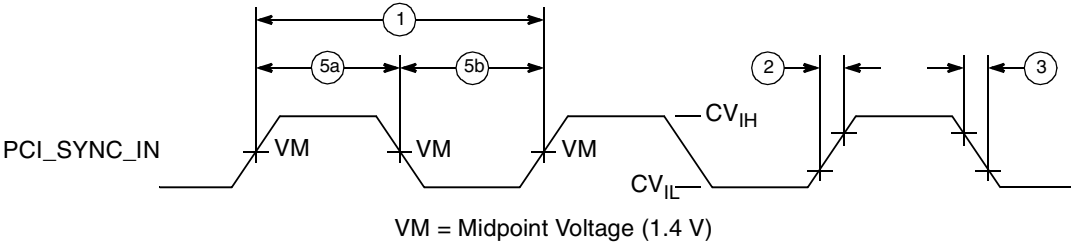
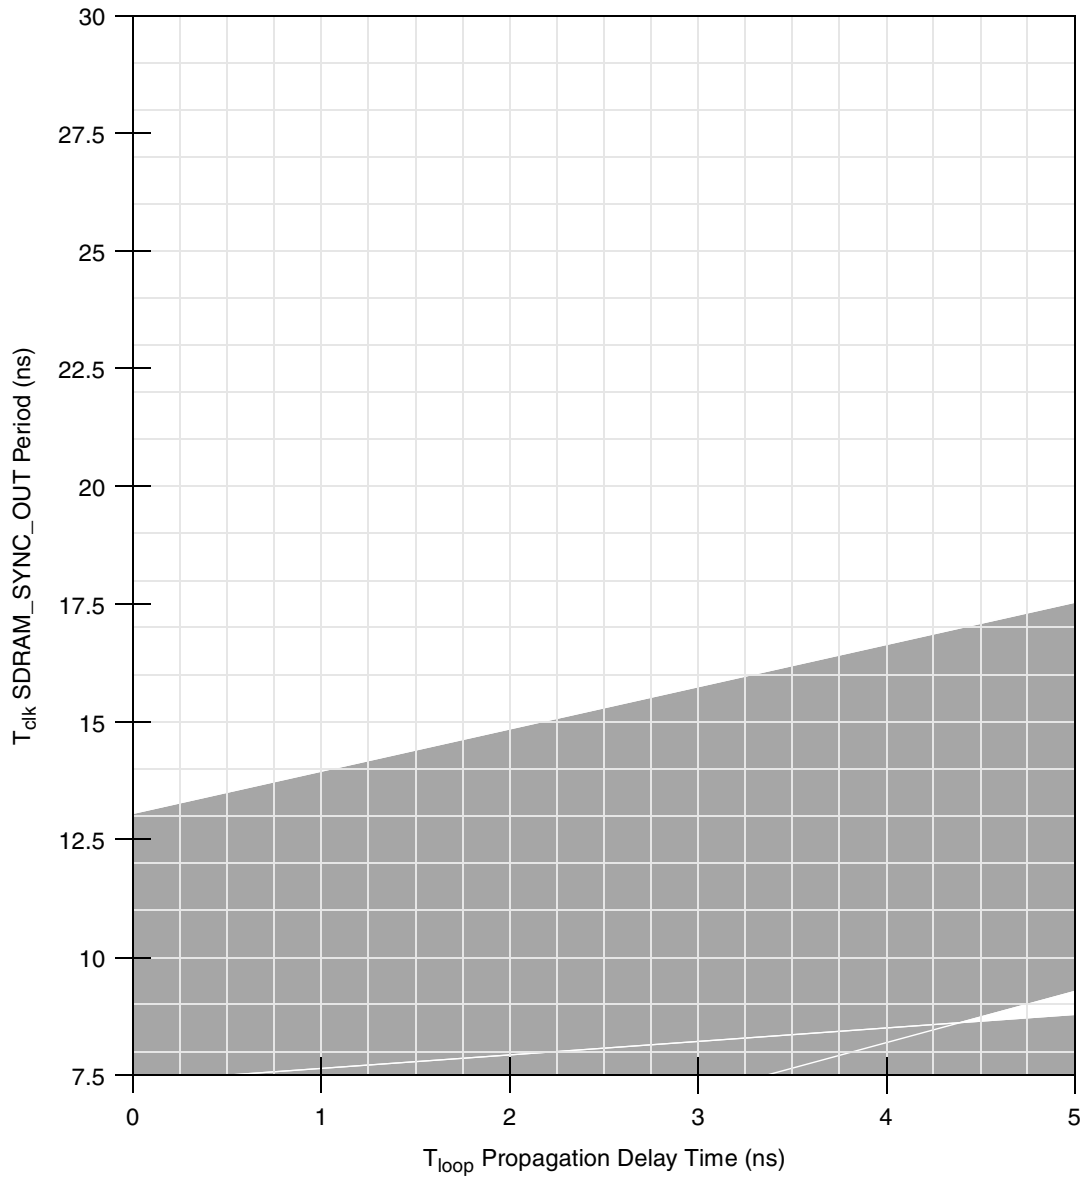
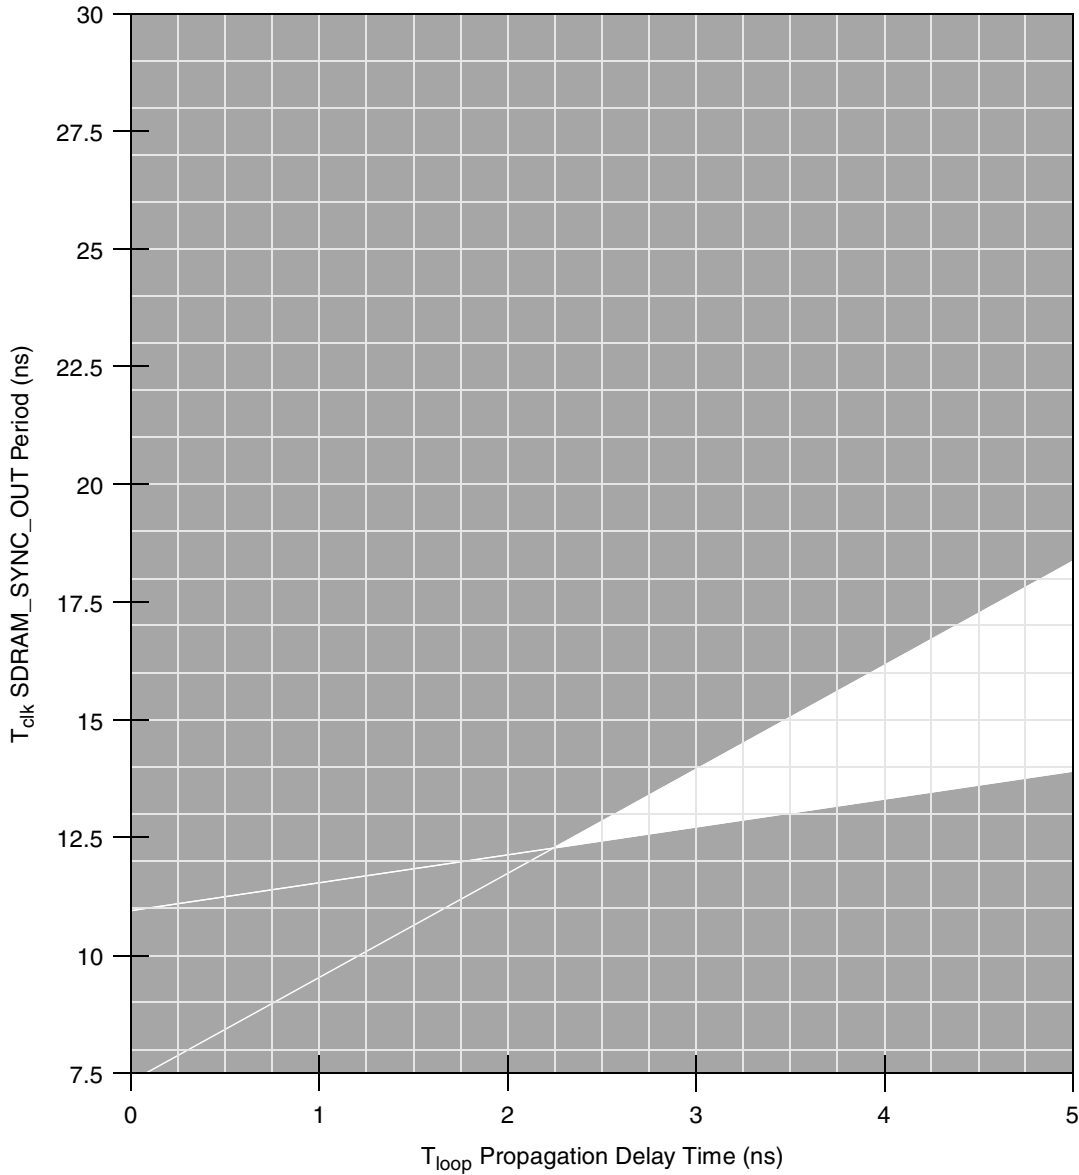

Figure 6. PCI_SYNC_IN Input Clock Timing Diagram
Figure 7. DLL Locking Range Loop Delay versus Frequency of Operation for DLL_Extend=0 and Normal Tap Delay
Figure 10. DLL Locking Range Loop Delay versus Frequency of Operation for DLL_Extend=1 and Max Tap Delay
Table 8 provides the clock AC timing specifications at recommended operating conditions, as defined in Section 4.5.2, “Input AC Timing Specifications.” These specifications are for the default driver strengths indicated in Table 4. Figure 6 shows the PCI_SYNC_IN input clock timing diagram with the labeled number items listed in Table 8.
- DLL_EXTEND is bit 7 of the PMC2 register <72>. *N* is a non-zero integer (see Figure 7 through Figure 10). T_{clk} is the period of one SDRAM_SYNC_OUT clock cycle in ns. T_{loop} is the propagation delay of the DLL synchronization feedback loop (PC board runner) from SDRAM_SYNC_OUT to SDRAM_SYNC_IN in ns; 6.25 inches of loop length (unloaded PC board runner) corresponds to approximately 1 ns of delay. For details about how Figure 7 through Figure 10 may be used, refer to the Freescale application note AN2164, *MPC8245/MPC8241 Memory Clock Design Guidelines*, for details on MPC8241 memory clock design.
Figure 6 shows the PCI_SYNC_IN input clock timing diagram, and Figure 7 through Figure 10 show the DLL locking range loop delay versus frequency of operation.